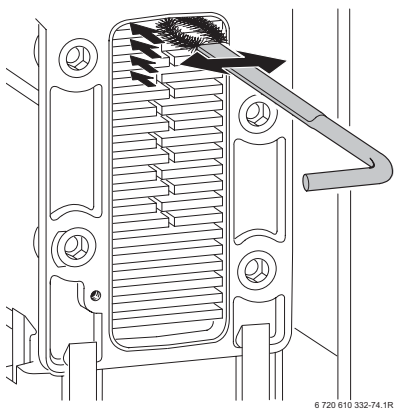

Fig. 50
- ▶ Clean the heat exchanger from top to bottom using the brush. Refer to fig. 50.